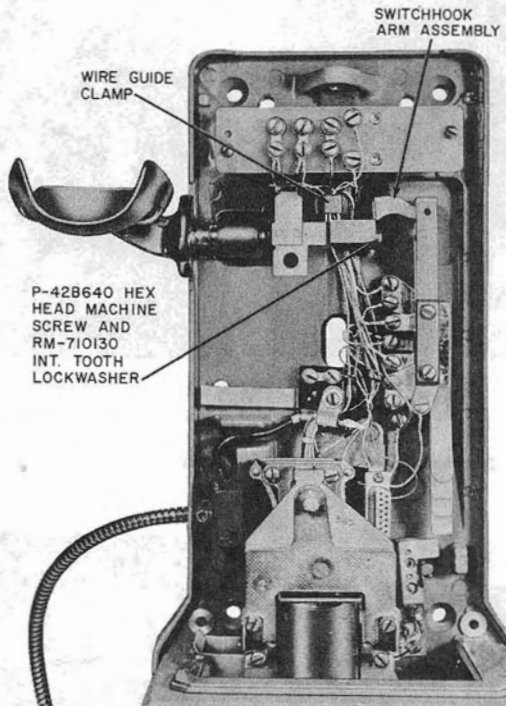

Fig. 22— Switchhook Installed
- (1) Remove and retain hex head machine screw, lockwashers, tension spring, switchhook arm assembly, and any spacing washer that may be present, from right end of shaft (Fig. 22).
- (2) Slide switchhook to the left and out of bearings.
2.35 Remove wire guide clamp (Fig. 22).